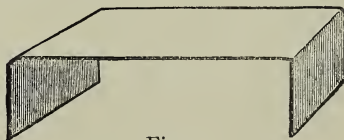

Fig. 2.
(2) *The Card Bridge*.—Take a visiting-card and bend it as in Fig. 2, so that the parts bent up are half an inch high. Now place this card on a table, resting on the two bent parts. The puzzle is to blow the card bridge right over on to its back. This will not be so easy a job as it appears. The secret is in blowing on the table about six inches in front of the bridge.